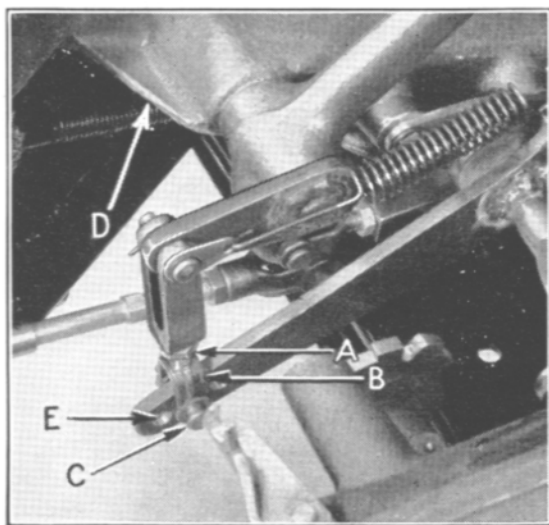

Figure 35
This can be adjusted by loosening lock nut (A), Fig. 35, removing cotter pin and clevis pin (C), and turning yoke (B) to increase or decrease the clearance as required. Replace clevis pin and cotter pin and tighten lock nut securely.
cated at intervals of 1,000 miles using viscous chassis lubricant applied through the grease fitting (D), Fig. 35, on the bottom of the pedal bracket, reached from underneath the car.